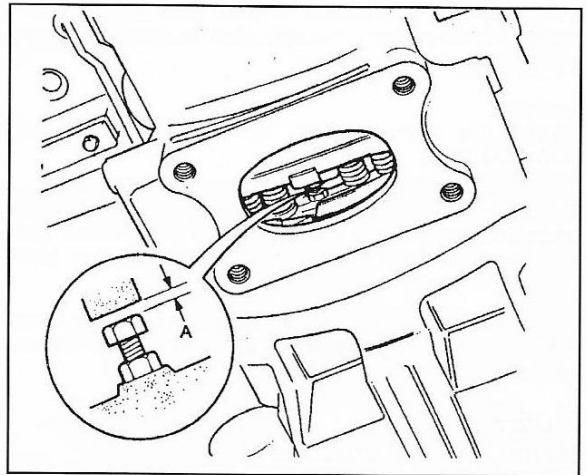

Fig. 89
1. Remove the four bolts and the inspection cover from the underside of the clutch housing (Fig. 89).